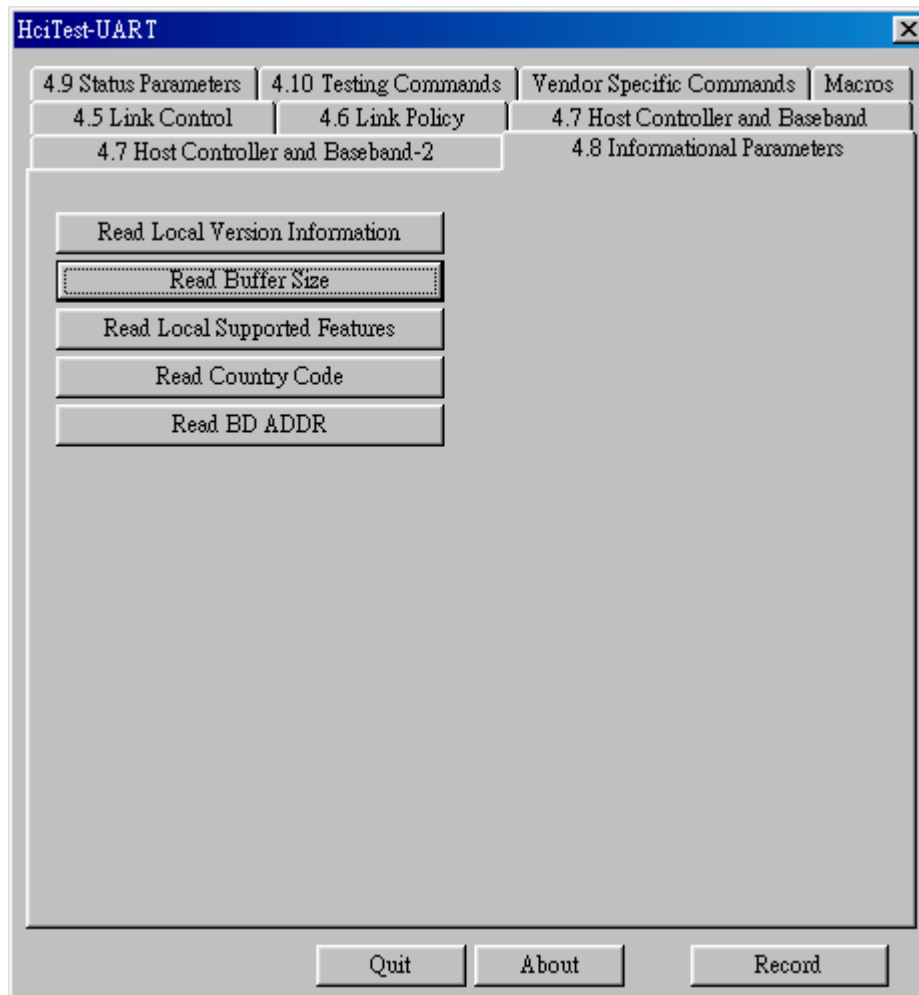

Figure 12: Show test result
5. On both computers, select “**4.8 Information Parameters**” box, then click on the “**Read Buffer Size**” button. (as Figure 12).